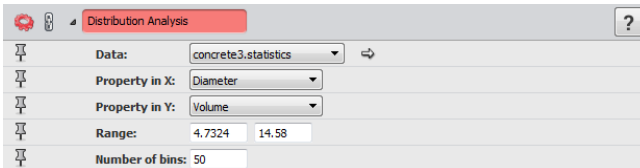

Figure 12.25: Parameter Settings of the *Distribution Analysis* Module
2. Attach a *Distribution Analysis* module to the output of the *Fiber Shape Statistics* module, set the parameters as shown in Figure 12.25, and click **Apply**.